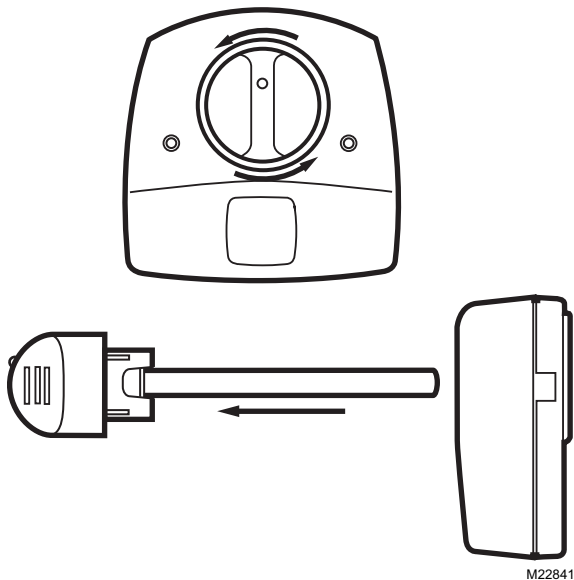

Fig. 11. Remove lamp or bulb.
4. Rotate the lamp handle counterclockwise and gently pull the lamp handle to remove the bulb(s). See Fig. 11.